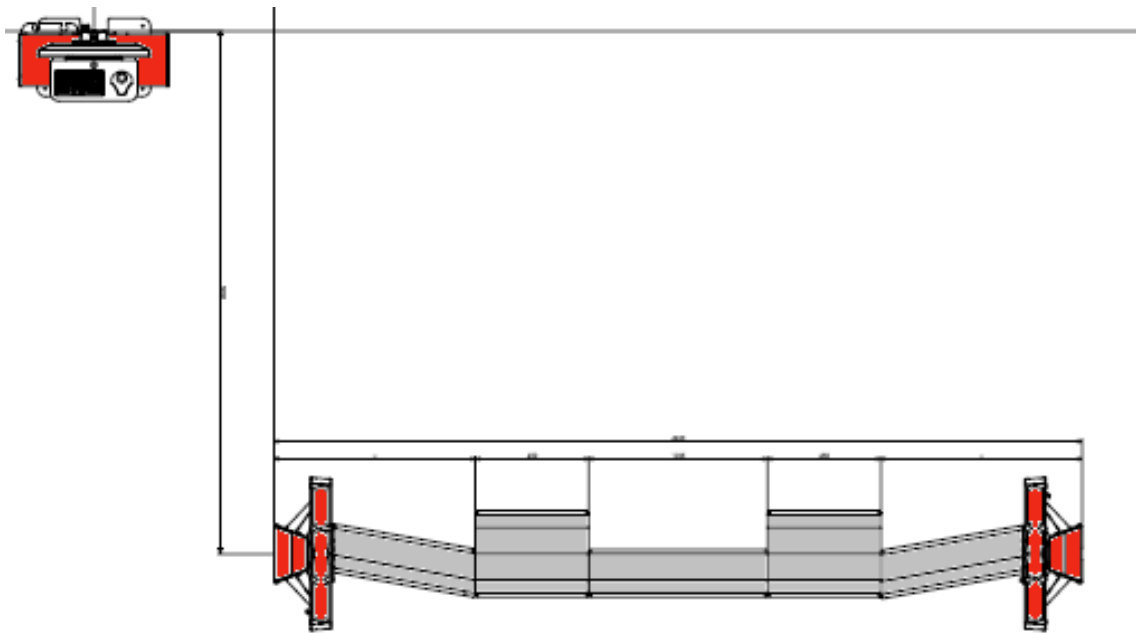

Figure 102 – Basic configuration
- Assemble the measurement units, the central unit, the metal runways and the cable conduits in accordance with the directions and measurements given in the layout in figure 102.
The installation layout and the necessary installation space for a complete system are given in figure 102. The working space necessary for the installation of a complete pre-check wheel alignment measurement system is therefore $L \times W \times H = 6.50 \times 3.50 \times 2.50 \text{ m}^3$.